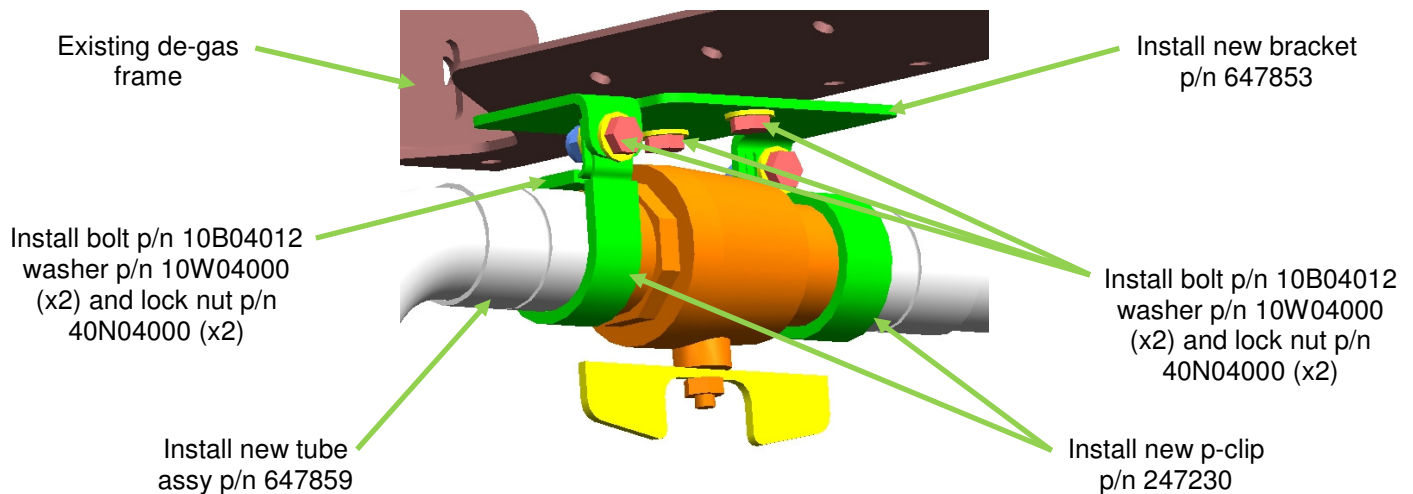

Figure 5: Tube and Support Bracket Assembly Installation
14. Using the newly drilled hole from Step 13 and an existing slot in the de-gas frame install the new tube support bracket p/n 647853 using new bolts p/n 10B04012 (x2), washers p/n 10W04000 (x4) and lock nuts p/n 40N04000 (x2), torque hardware to 12 ft*lbs dry. See Figure 5.
15. Loosely install the new tube assy p/n 647859 to the newly installed bracket from Step 14 using p-clips p/n 247230 (x2), washer p/n 10W04000 (x4) and lock nuts p/n 40N04000 (x2). See Figure 5.